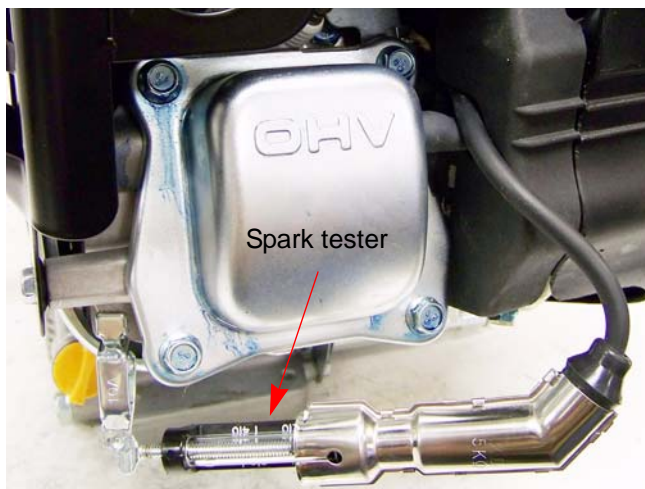

Figure 7.1
2. Connect a spark tester between the spark plug wire and a good ground point on the engine. See Figure 7.1.